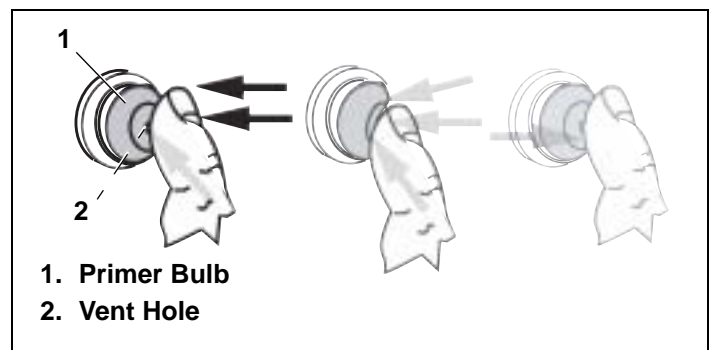

Figure 23. Pressing Primer Bulb
7. Hold the primer bulb in for one full second each time you press it. See Figure 23.